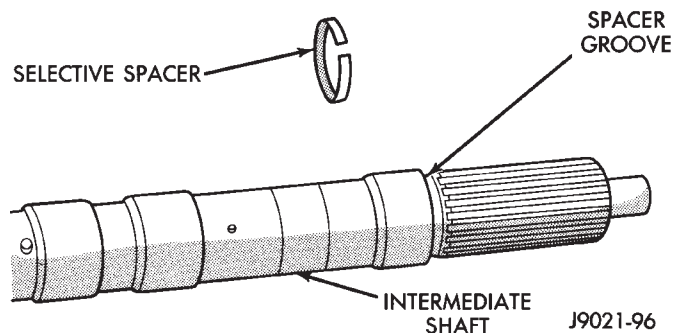

Fig. 54 Intermediate Shaft Selective Spacer Location
(6) Install selective spacer on intermediate shaft, if removed. Spacer goes in groove just rearward of shaft rear splines (Fig. 54).